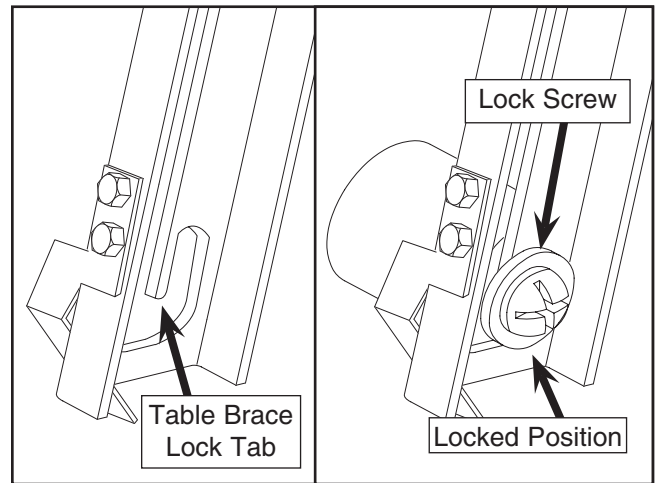

Figure 12. Locked table brace.
1. Lift the table assembly up and engage the table braces on each side. Note—Ensure that the table brace lock tabs are engaged completely around the lock screws (**Figure 12**).